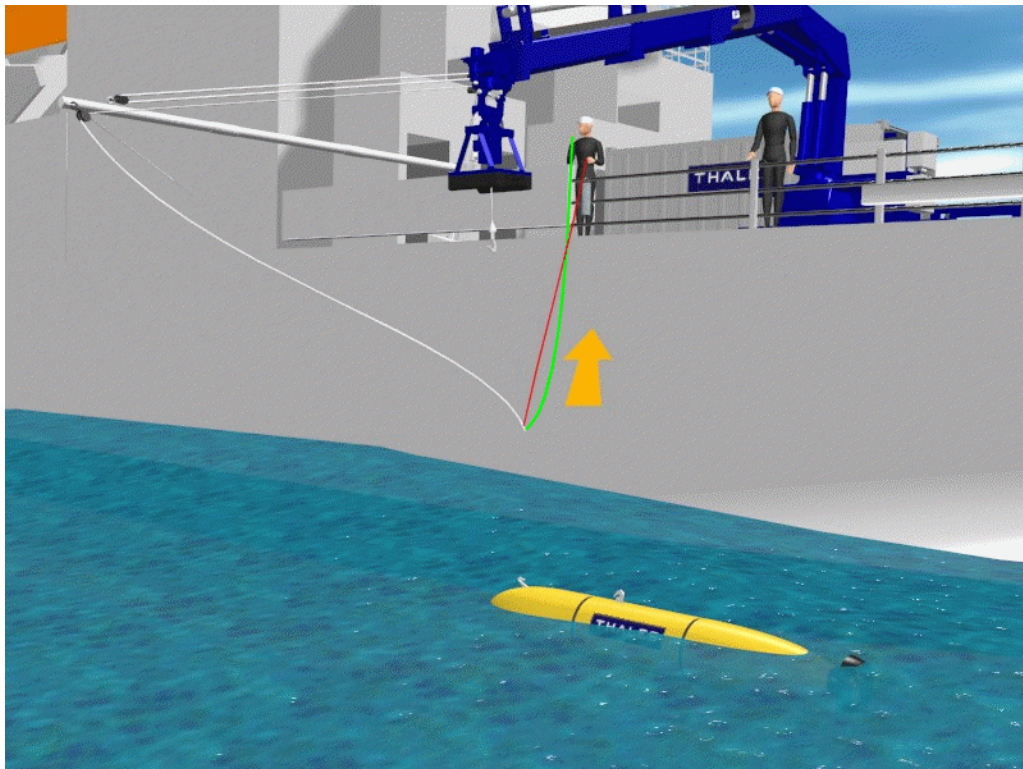

Figure 4-09
27. Release the tow line by pulling on the snap shackle release line. As soon as release occurs, quickly haul in the tow line (Figure 4-09).